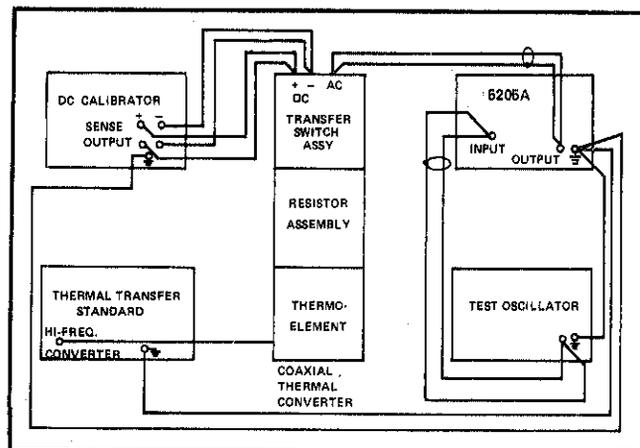

Figure 4-2. LOCAL AND REMOTE MODES CONNECTIONS.
- Connect the test equipment as shown in Figure 4-2.
a. Leave the equipment connected as shown in Figure 4-2.